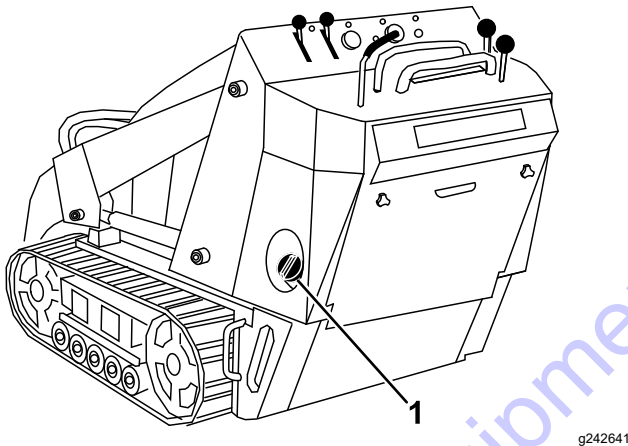

Figure 14
3. Clean around the fuel-tank cap and remove it (Figure 14).